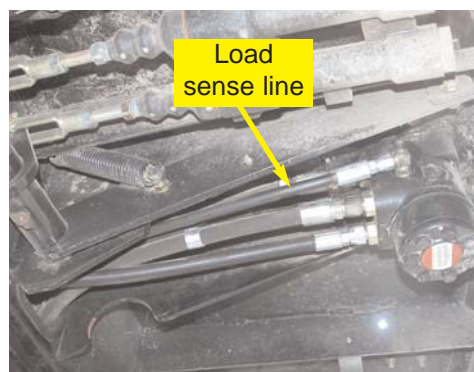

Figure 3d. Load sense line.
- f. Connect the load sense hose (**R**) from the load sense port on the steering orbital to port **B** on the dynamic load sense shuttle. (figure 3d.)